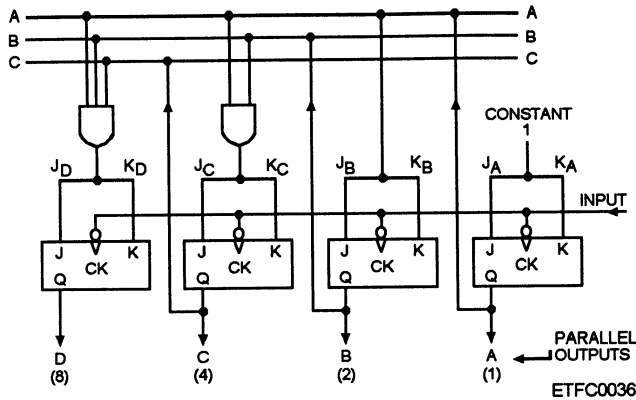

Figure 4-12.—Example of a synchronous operation with a flip-flop.
• Synchronous operations —This term describes the operation of logic functions that are controlled by the occurrence of a specific timing signal. Usually the timing signal is the computer's timing signal and is commonly referred to as the clock pulse. See figure 4-12.